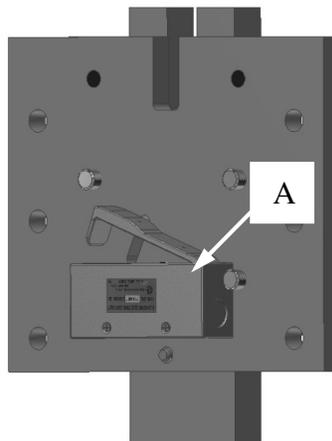

Figure 2
- The first step to install the #390 rail lock is to connect the wiring in the gate switch, item "A", located on the bottom of the rail lock. Refer to Figure 2.